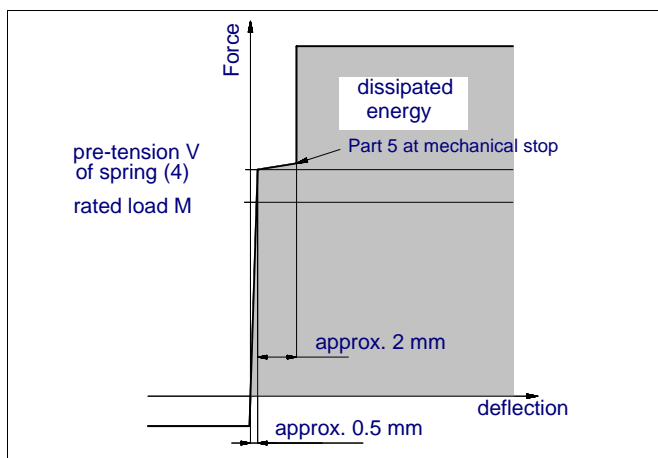

Fig. 4: Force-deflection diagram
For the clamping system, this means that the dynamic forces become much higher than the static forces. If the load exceeds the spring force V (4) Fig. 4, than the whole package (clamping ring (2) + clamping sleeve (1) + annular piston (5)) moves together with the rod until it gets to the mechanical stop after approx. 2 mm. The spring (4) then bounces slightly, without reaching the block storage area. The clamping force cannot increase after this point.